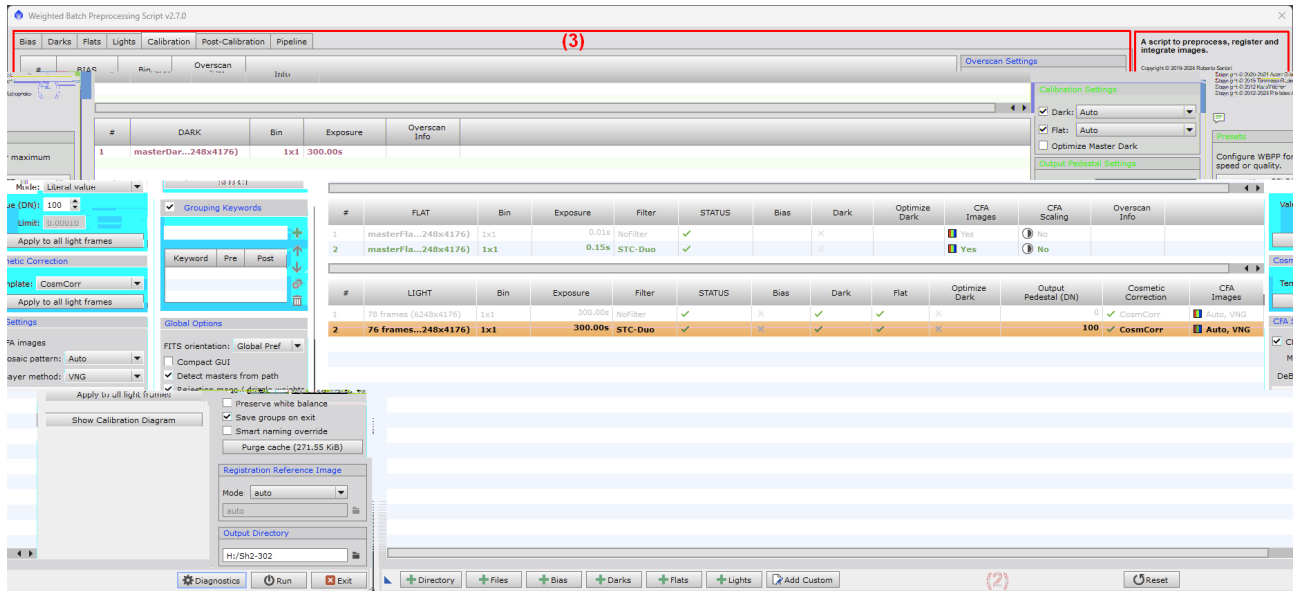

Figure 4: Structure of WBPP's user interface
The structure of WBPP's user interface is divided into three distinct regions which comprise different functions, see **Figure 4**:
At the top of WBPP's main dialog, the image-type tabs ('Bias', 'Darks', 'Flats' and 'Lights'), and the tabs 'Calibration', 'Post-Calibration' and 'Pipeline' are arranged. Whereas elements in region (1) and buttons in region (2) of **Figure 4** are invariable, the appearance of the panel in region (3) is variable, it depends on which tab is active. When an image-type tab is active, the list of input files is shown in the left half of the panel: either calibration subframes, master calibration files (the latter marked with a blue star) or light subframes. Input files are grouped, the grouping criteria depend on the image type. In the right half of the panel at the top, buttons 'Clear', 'Remove Selected' and 'Invert Selection' support removing input files. Below these buttons, different parameters and configurable sections are displayed, depending on the active tab: